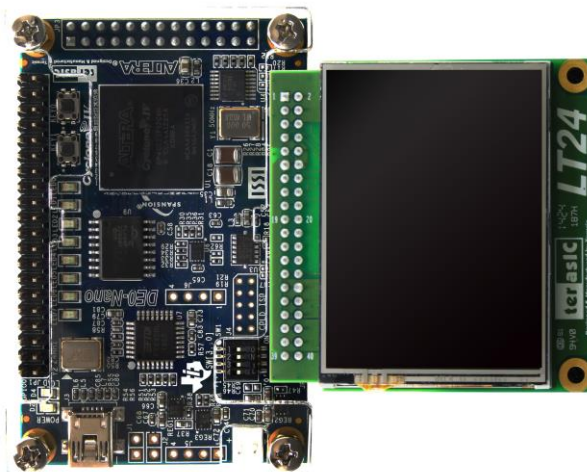

Figure 1-4 LT24 Assembled with DE0-Nano
3. Connect the LT24 to the GPIO header of DE0-Nano, as shown in **Figure 1-4**.